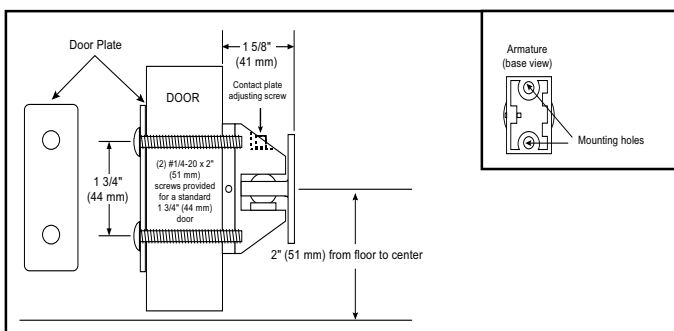

Figure 5. Thru-Bolt Mounting
- Using a 5/32" Allen wrench, turn the contact plate adjusting screw (Figures 5 and 6) counterclockwise to loosen the contact plate.
- a. **Thru-bolt mounting (Figure 5).** Center punch the two holes (at the points marked in step 3) and drill 5/16" diameter through the door. Distance between the center points should equal 1 3/4".
Secure the armature assembly, with the contact plate adjust screw facing down, to the door as shown in Figure 5 using (2) #1/4-20 x 2" screws (supplied).